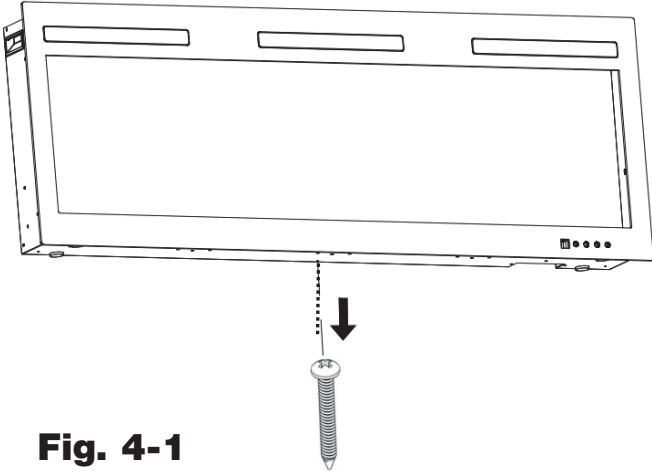

Fig. 4-1
- A.** Remove the silver screw at the bottom of the appliance (**Fig. 4-1**). Set the screw aside.